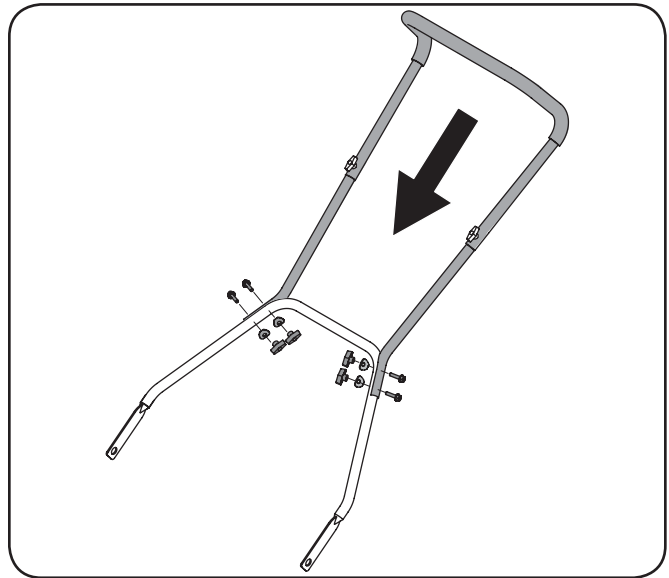

Figure 3-2
2. Secure the handle assembled in step 1 to the lower handle with four carriage bolts, four saddle washers and four wing knobs. See Fig. 3-2.